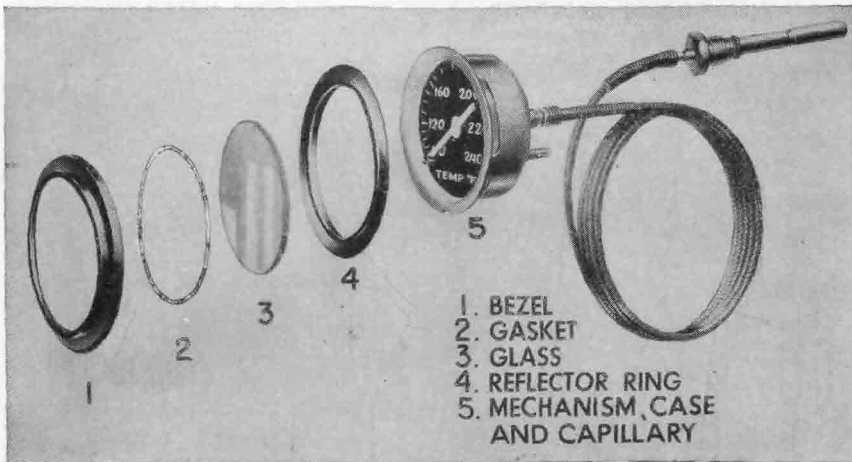

FIG. 13-24. Vapor-pressure temperature indicator. (AC Spark Plug Division of General Motors Corporation)
1. Vapor Pressure. The vapor-pressure temperature indicator (Fig. 13-24) consists of an indicator bulb and a tube connecting the bulb to the indicator unit. The indicator unit contains a curved or Bourdon tube, one end of which is linked to the indicator needle. The other end is open and is connected through a tube to the bulb. The indicator bulb, usually placed in the water jacket of the engine, is filled with a liquid that evaporates at fairly low temperature. As the engine temperature increases, the liquid in the bulb begins to evaporate, creating pressure that is conveyed through the connect-